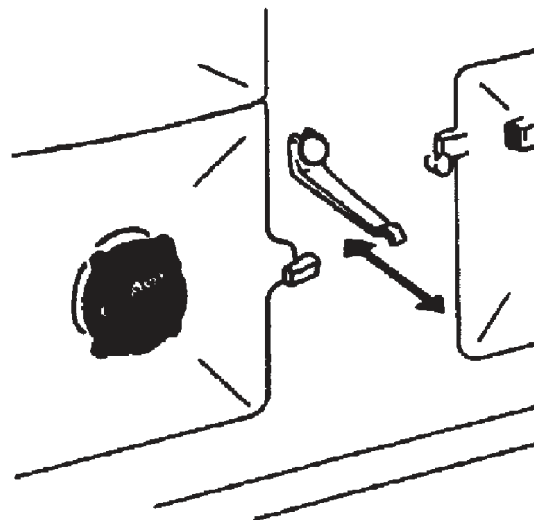

Fig. 3
5. De-ash (Fig. 3) also see page 3 **De-ashing** and remove any dead fuel from bottomgrate as described under '**Removal of Clinker and Bottomgrate**'.
4. De-ash (Fig. 3) and insert flay bayonet type gas poker on top of bottomgrate.
Open the ashpit door to give access to the ashpan which must be emptied regularly (Fig. 3). The class of fuel and cooker usage govern the frequency of refuelling. **NOTE: DO NOT ALLOW ASH TO ACCUMULATE IN THE ASHPAN UNTIL IT TOUCHES THE UNDERSIDE OF THE BOTTOMGRATE OR IT WILL QUICKLY BURN OUT.**